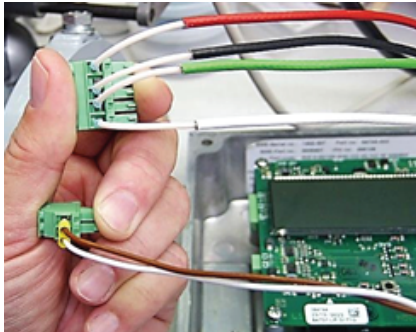

Figure 8: M5000 electrode and coil terminal blocks
- Using the electrode and coil terminal blocks removed from the junction box circuit boards, connect the wires per Figure 8, making sure all connections are secure.